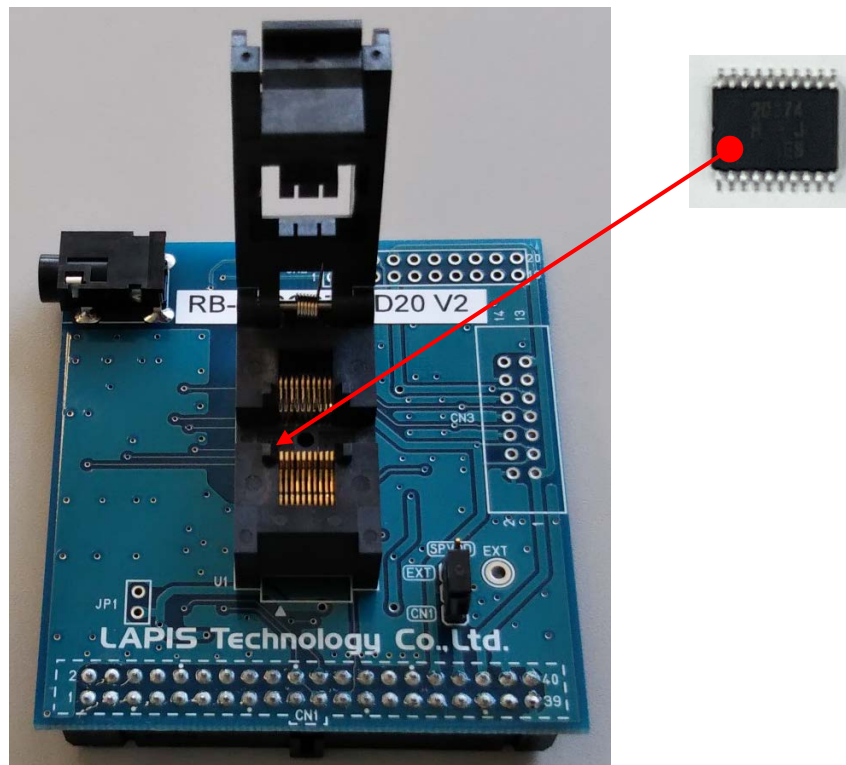

Figure 1 Outline Diagram
- Turn off the power when loading Speech Synthesis LSIs into the RB-S22Q374TD20 V2. Pin 1 is the position of the board silk ▲ at the bottom left with respect to the socket opening. The Figure 1 shows the setting directions of Speech Synthesis LSIs.